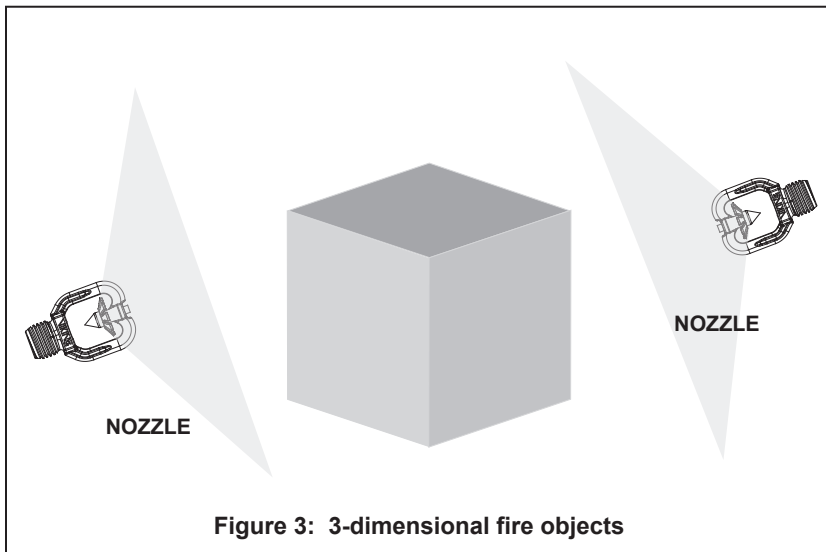

Figure 3: 3-dimensional fire objects
3. 3-dimensional fire objects are sprayed from as many sides as possible (see Figure 3),